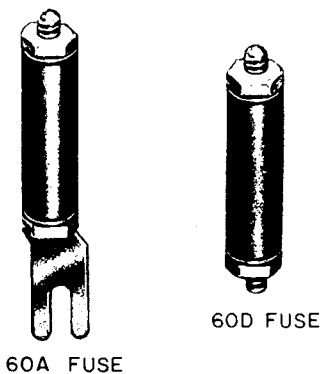

Fig. 62—60A and 60D Fuses
10.03 The 60A and 60D fuses (Fig. 62) are rated 0.350 ampere and differ only in arrangement